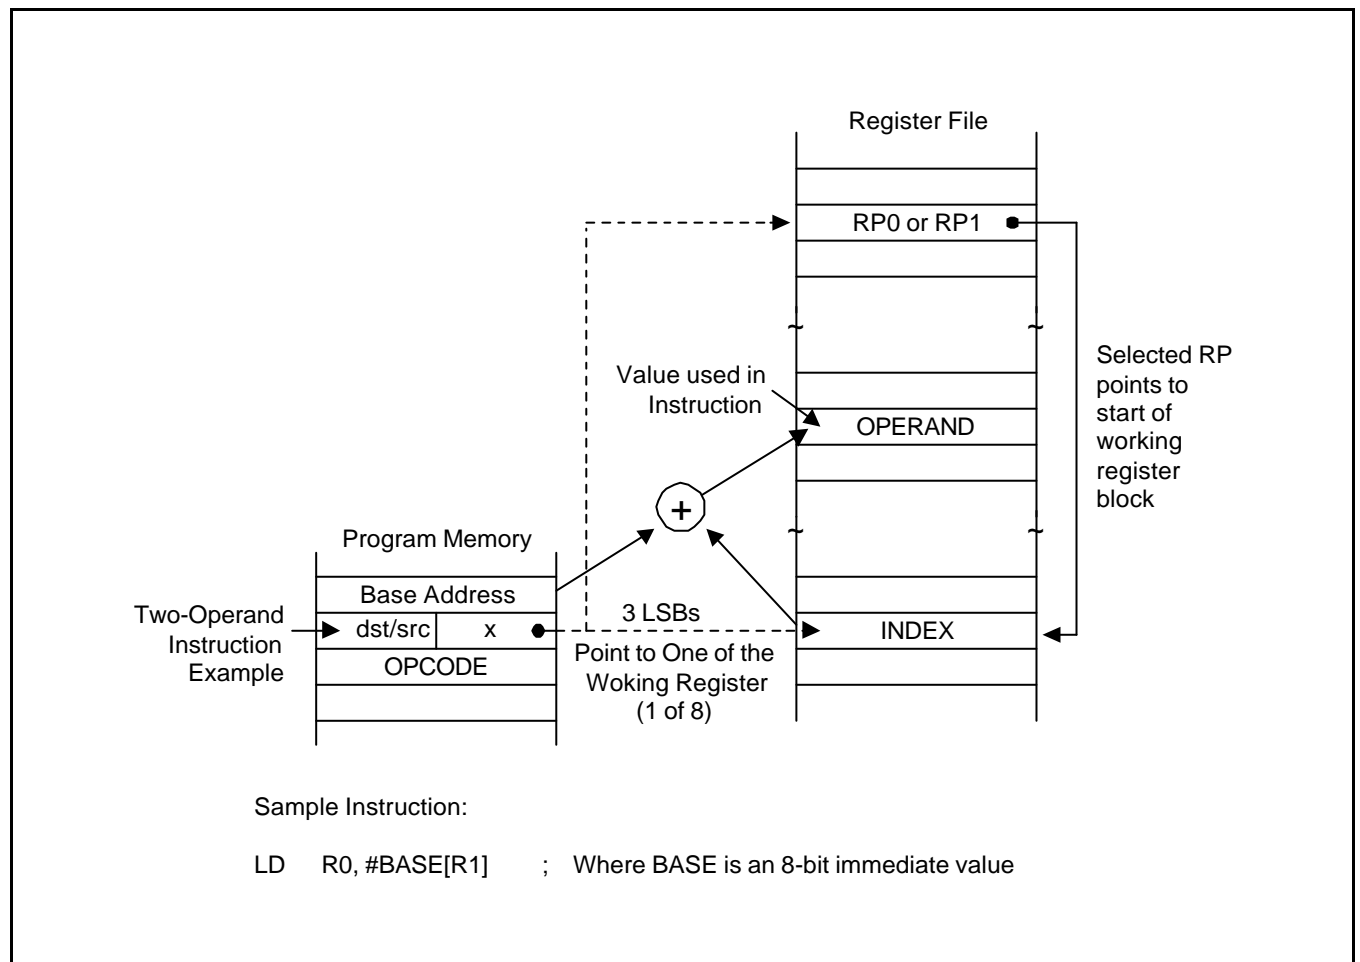

Figure 3-7. Indexed Addressing to Register File
Indexed (X) addressing mode adds an offset value to a base address during instruction execution in order to calculate the effective operand address (see Figure 3-7). You can use Indexed addressing mode to access locations in the internal register file or in external memory.